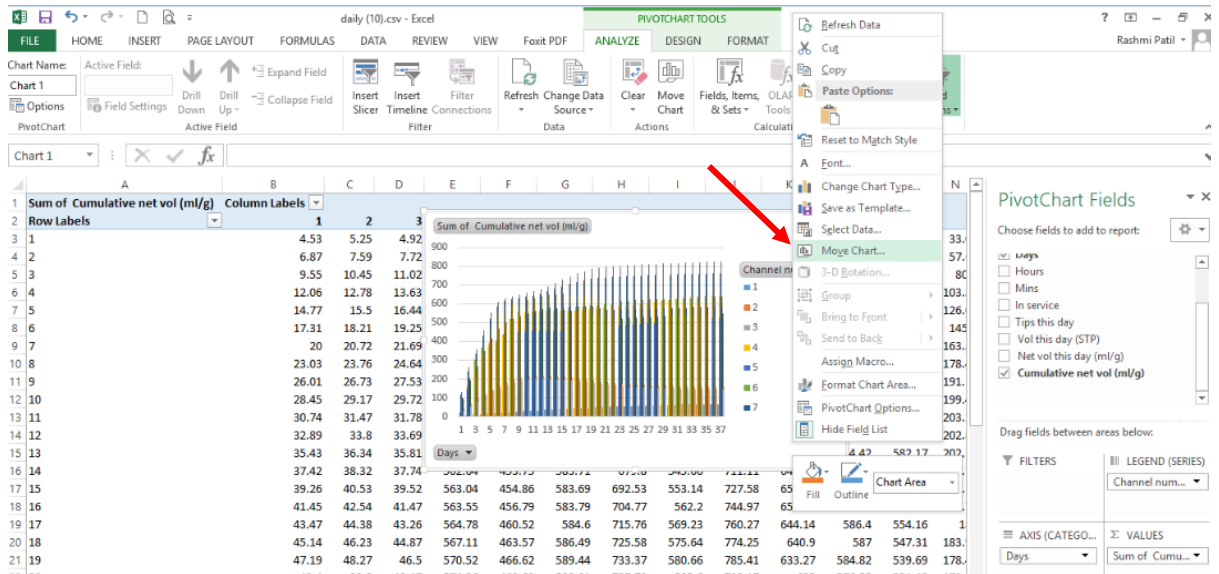
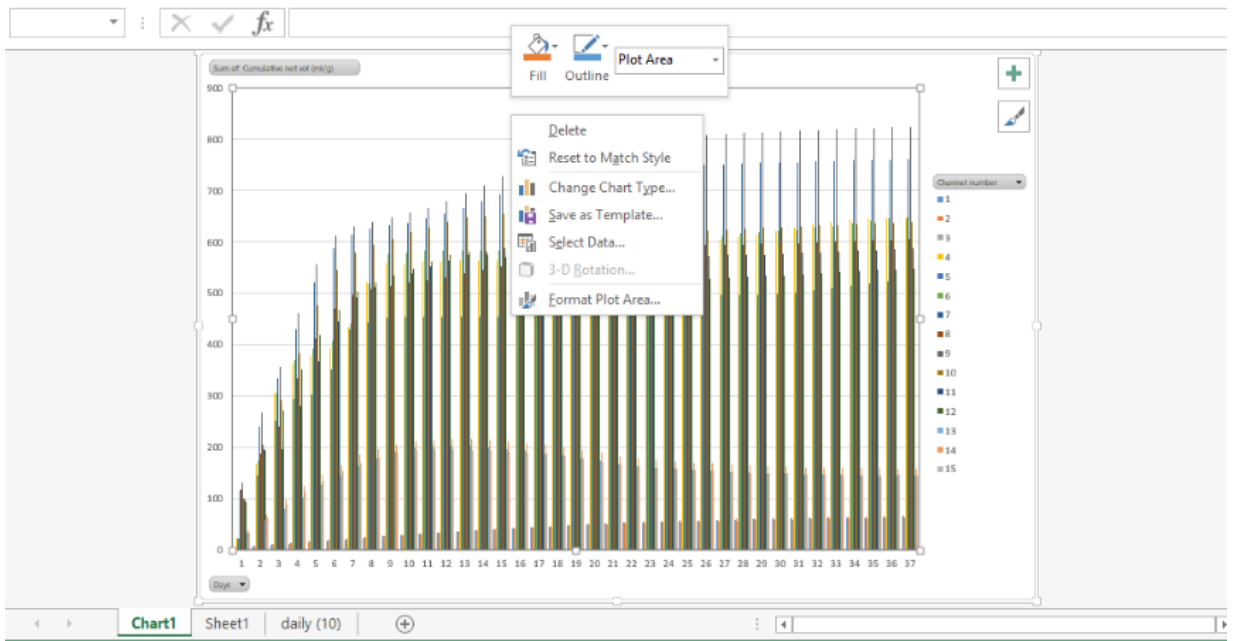

Figure 29. Creating a Pivot Chart 4.
Figure 30. Creating a Pivot Chart 5.
s) Move the Chart to a new tab (see figure 29) and change the chart type to: Line Chart (see figure 30).